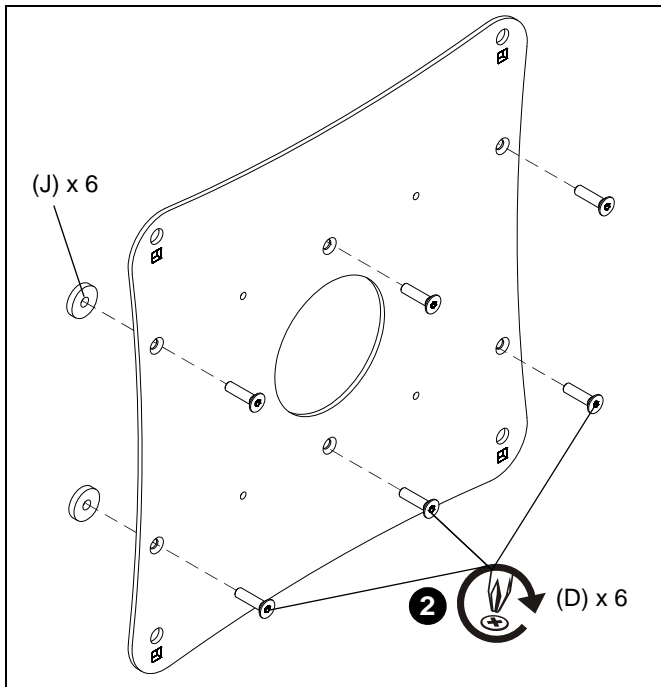

Figure 1
2. Use six nylon spacers (J) and six flat head screws (D) to attach JSB210 interface bracket to the display back. (See Figure 1)